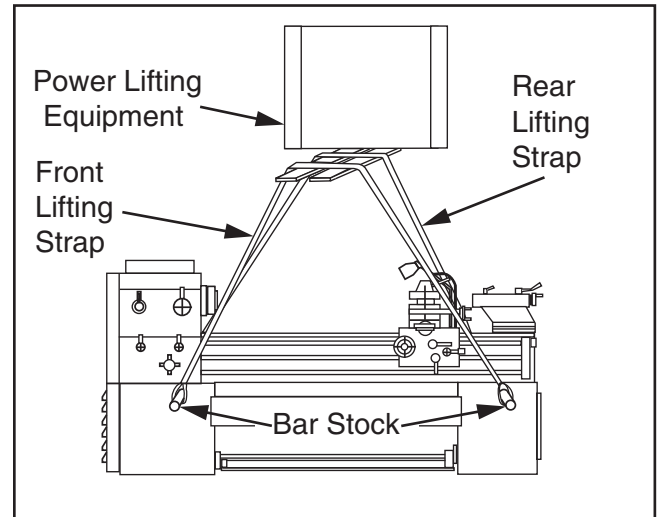

Figure 15. Example of lathe setup for lifting.
6. Insert round steel bar stock through four lifting holes (see **Figure 15**).
7. Attach lifting straps to bar stock and power lifting equipment (see **Figure 15**). Make sure there is enough space between straps and control rod, feed rod, leadscrew and electrical cabinet to prevent putting pressure on these components when lifting.